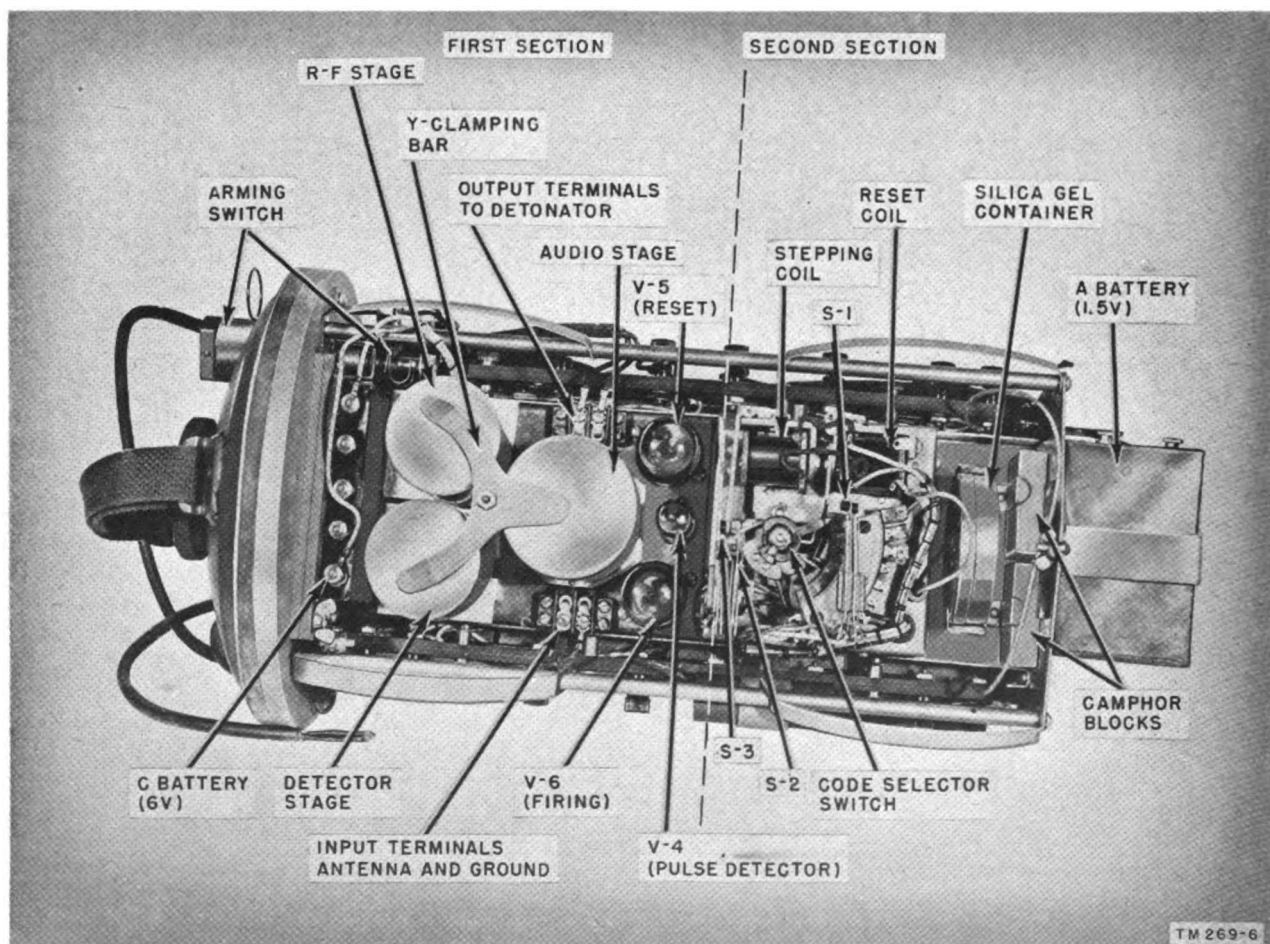

Figure 9. Receiver, top view of chassis.
then readily accessible. The receiver circuits are built on two separate chassis, shown in figure 9 as the first and second sections.
(1) The first section (fig. 9) contains the six tubes in the receiver—the r-f amplifier, superregenerative detector, a-f discriminator, pulse detector, and two thyratron type tubes. The r-f amplifier, superregenerative detector, and a-f discriminator are self-contained plug-in stages which have been factory-tuned and which are supplied with the receiver according to the information given in table III. These plug-in units make it possible to preset any receiver
(2) The second section of the receiver (fig. 9) contains the electromechanical switching section, which includes the stepping relay, reset and sensitive relays, and switches and capacitors for coding and firing the system. The coded sequence of pulses to which each receiver is made to respond is determined by five small code-changing clips, located on the stepping relay. These clips are attached to the fixed contacts of the three-gang switch of the relay according to the desired code.
Note. If the receiver chassis is not marked to indicate the plug-in stage positions, use figures 9 and 12 as a guide in plugging in the stages.
- (4) After all three stages are plugged in, turn the Y-clamping bar so that one of the arms extends over each stage (fig. 9). Tighten the wingnut on the clamping bar.